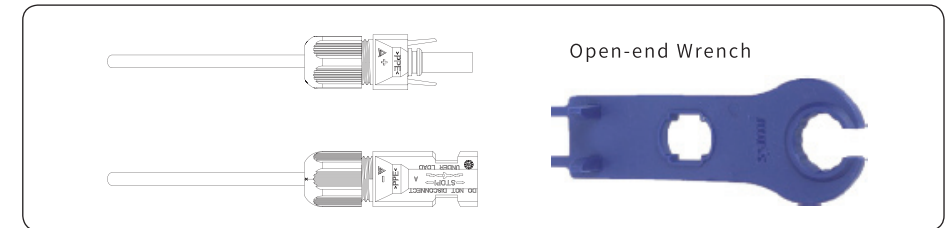

Figure 4-12
6) Use an open-end wrench to screw the nut to the end to ensure that the terminal is well sealed, as shown in Figure 4-12: